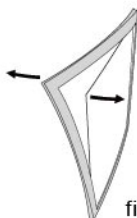

fig.6
- **REPLACING FRONT COVER LENS.** Replacing the front cover lens if it is damaged (cracked, scratched, soiled or pitted) (See fig.6).